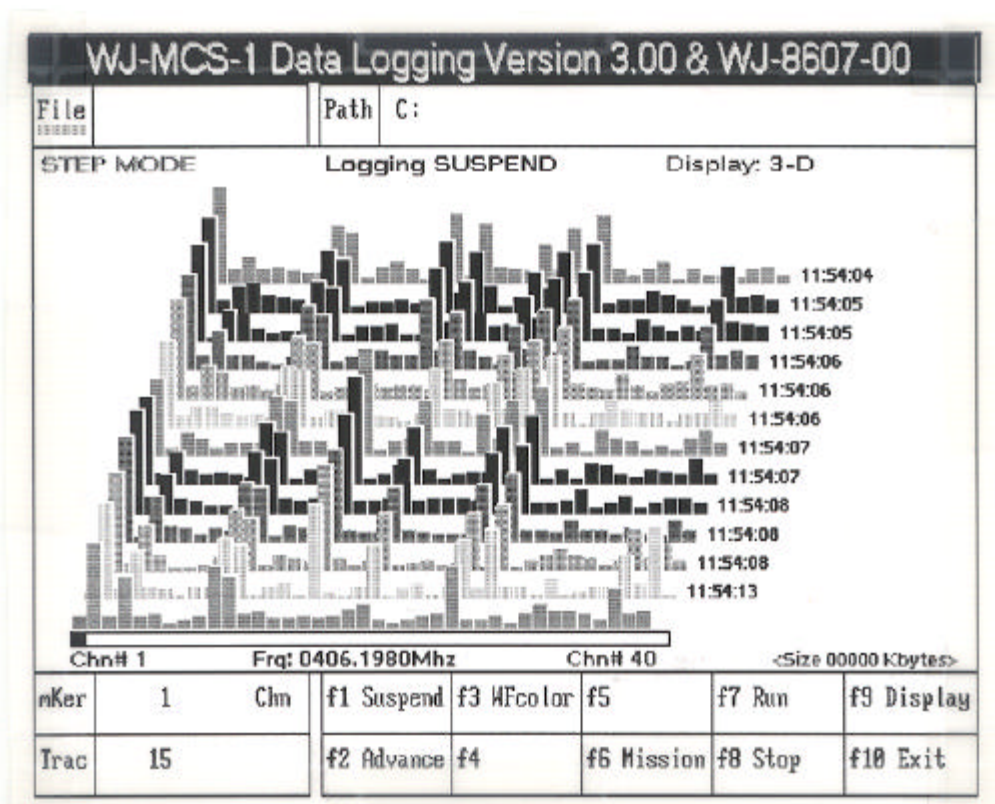

Figure I-26. DATA LOGGING Menu (SWEEP or Step Mode)
- b. "Trac" - (Trace)/"Colr" - (Color) field displays the "Trac" command field while showing the "3-D" display and display the "Colr" command field while in the Waterfall display mode. The Trace command field allows the operator to enter the number of 3-D traces (**Figure I-26**) to be displayed on the screen. When this command is activated by placing the cursor under the word "Trac" and pressing the <Enter> key, brackets appear in the trace field. Enter the desired number of traces (from 2 to 15) and press the <Enter> key. When the 3-D display is selected and the sweep is started, the first 3-D trace is
- a. "3-D" - (three-dimensional, shown in **Figure I-26**) uses the x-axis for frequency, the y-axis for signal amplitude, and the z-axis for time. The number of traces displayed depends on the "Trac" entry provided by the operator. The SWEEP SECTOR mode does not allow the "3-D" display.